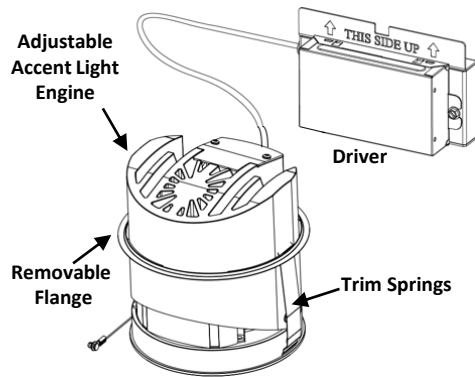
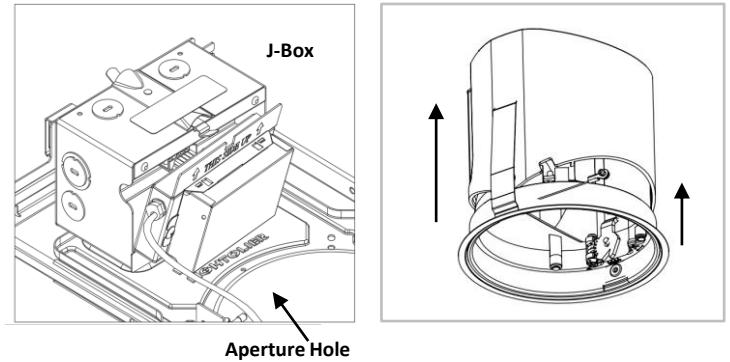

Figure 1
Figure 2
Feed driver from Light Engine (Figure 1) through the aperture hole in the ceiling and snap into j-box door (Figure 2)
*Note: (For Flangeless installations, squeeze trim springs up against Light Engine heatsink (Figure 1). Slide Removeable Flange carefully up over Light Engine, Wire, and Driver Assembly to remove and discard before installing Driver to frame.)*
Squeeze Trim Springs up against Light Engine in to insert into the ceiling aperture as shown in figure 2.